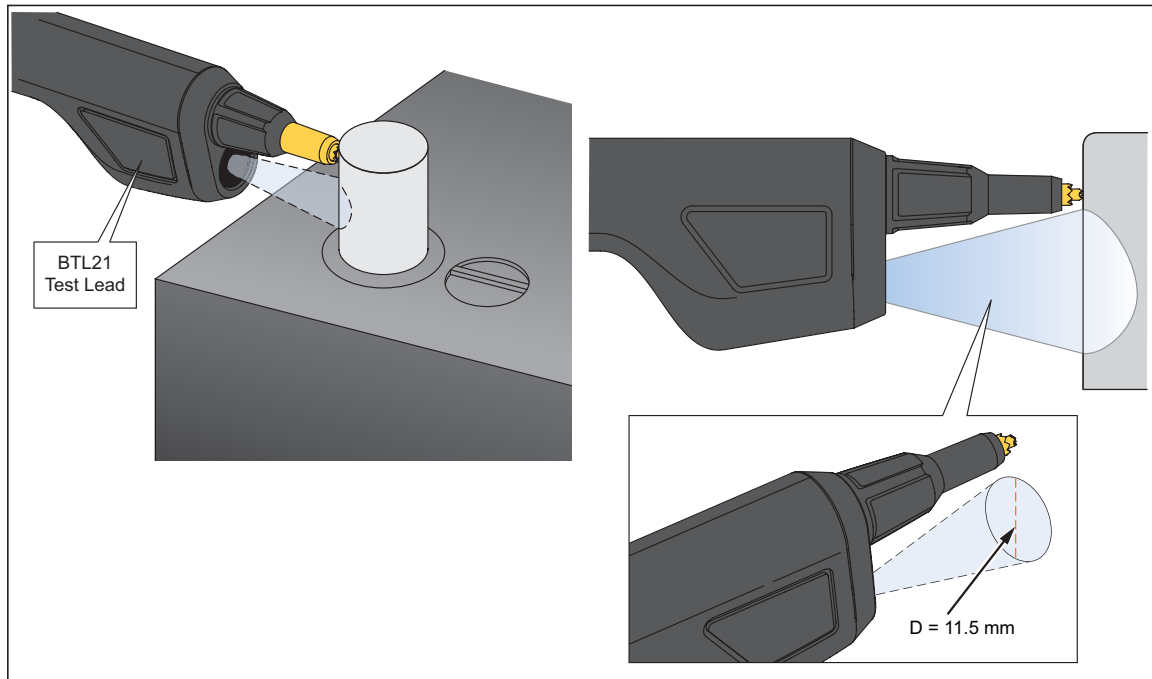

Figure 4-6. Measure the Temperature of a Battery Pole
2. Adjust the test lead to let the entire flare fall on the battery pole. See Figure 4-6. The temperature reading shows on the LCD of the interactive test probe.
Figure 4-6 shows the measurement field of a battery pole.